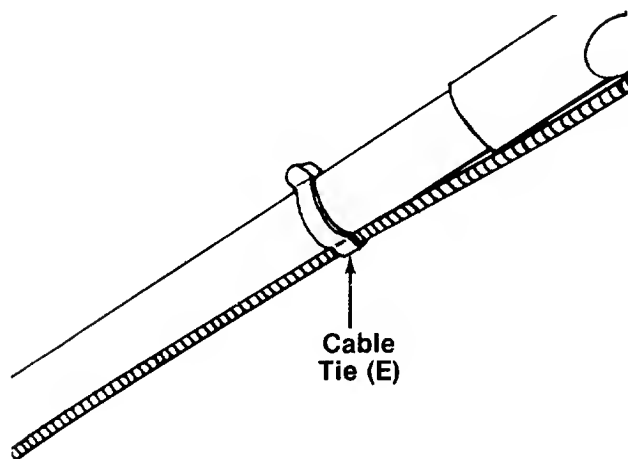

FIGURE 11.
17. Secure throttle control and brake cables to upper and lower handles with cable ties (E). See figure 11.